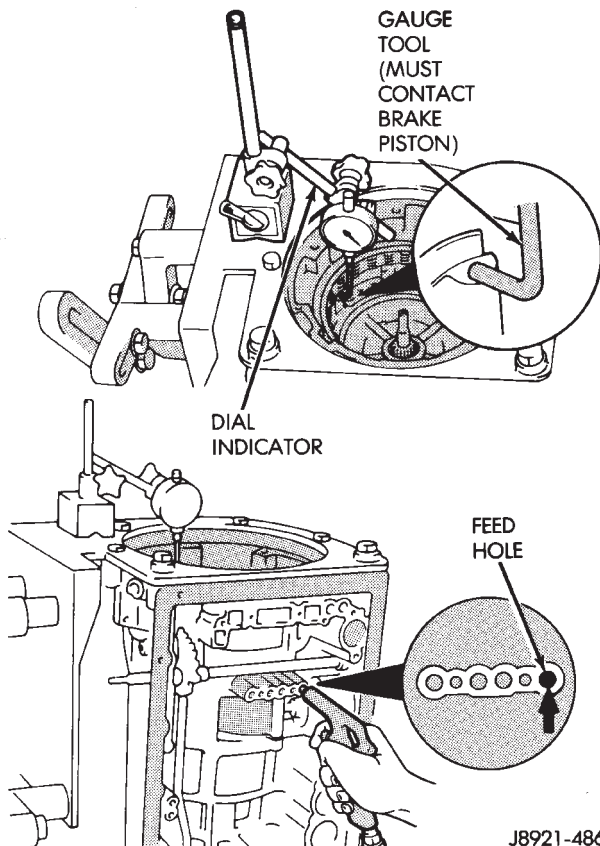

Fig. 19 Measuring Overdrive Brake Piston Stroke
(27) Measure stroke length of overdrive brake piston as follows:
- (a) Mount dial indicator on case (Fig. 19).
- (b) Mount Gauge Tool 7546 so it contacts piston (Fig. 19).